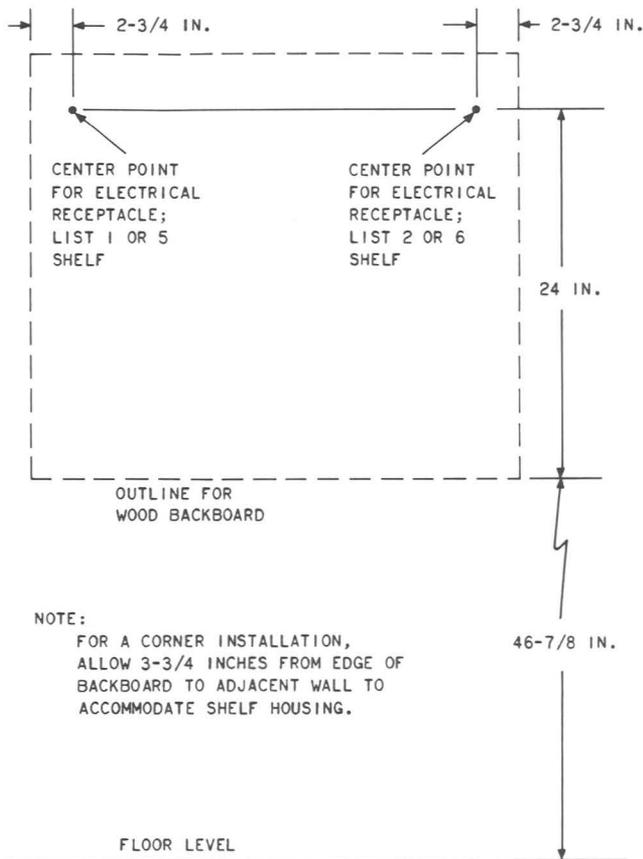

Fig. 8—Locating The Hole For Electrical Receptacle Behind Backboard
(2) Locate the center point for the electrical receptacle per Fig. 8.
- (a) Lay out and mark locations on the backboard for drilling mounting holes. Ensure that backboard is positioned correctly for the list number housing being installed. Backboard shall be 46-7/8 inches from floor (Fig. 8).